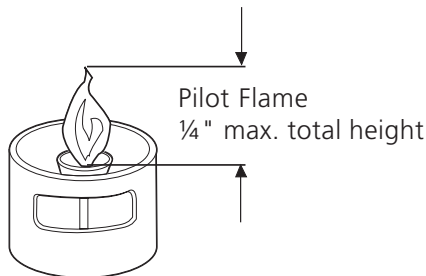

Figure 13
5. Adjust pilot flame between $\frac{1}{8}$ " and $\frac{1}{4}$ " (see figure 13) so that a slight tinge of yellow appears at the top.